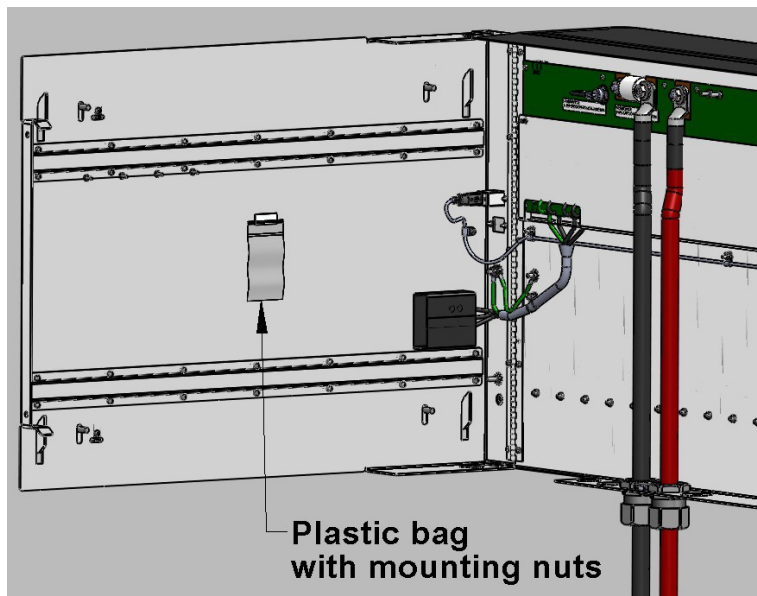

Figure 23: REX12 Cover open
1. The REVOLUTION chargers require a 480 VAC 3Ø, four-wire Wye or Delta electrical supply with a separate ground (Figure 23).